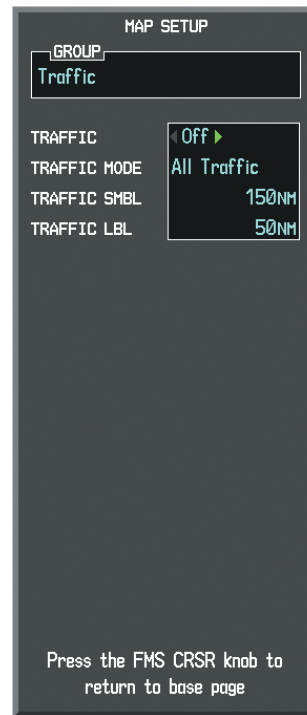

Figure 6-196 Navigation Map Page Setup Menu, Traffic Group
- 5) Turn the large **FMS** Knob or press the **ENT** Key to scroll through the selections (Figure 6-196).